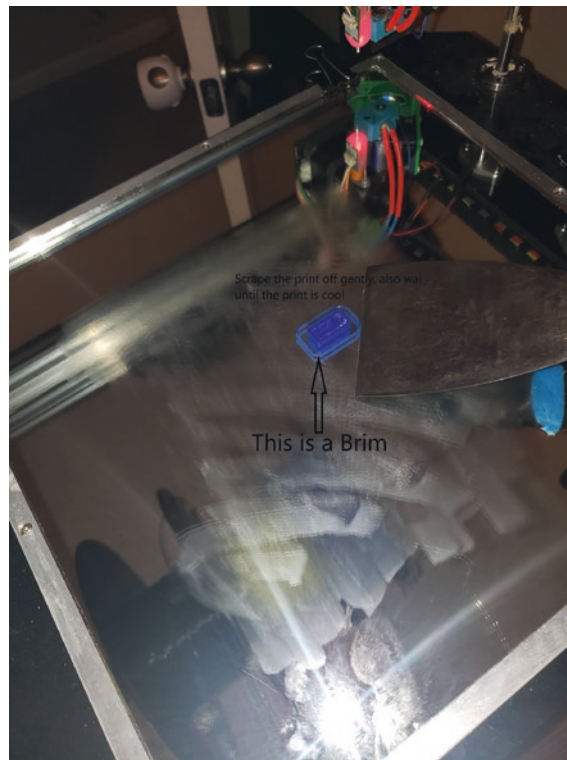

Figure 4-55. *Finished print*
13. Then you will need to follow your printer’s instructions on how to start the print from an SD card or over Wifi if your printer is wireless. This print should be quick between 2 and 10 minutes; once it is done, use the paint spatula to take the print off the build plate. See Figure 4-55.